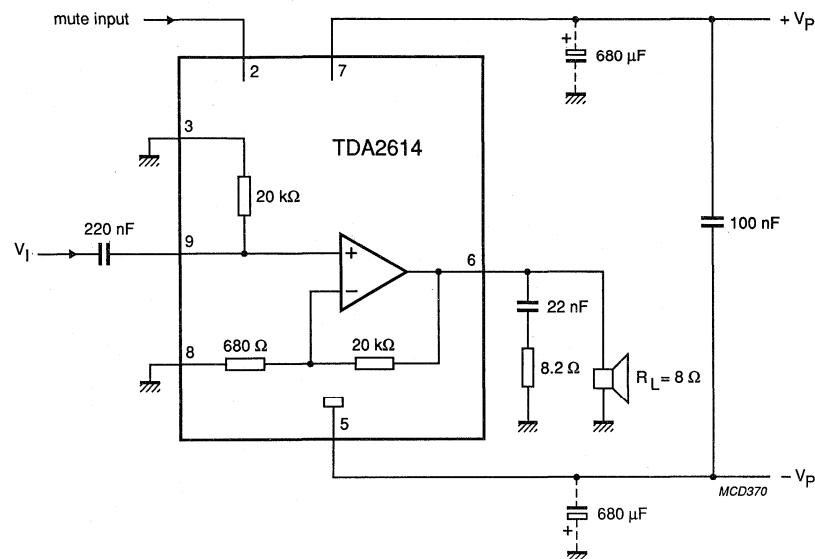

Fig.4 Test and application circuit with symmetrical power supply.
- $\pm V_p = 12 \text{ V}; R_L = 8 \Omega; T_{amb} = 25^\circ\text{C}; f = 1 \text{ kHz};$ symmetrical power supply $I_{MUTE} < 30 \mu\text{A}$. See Fig.4